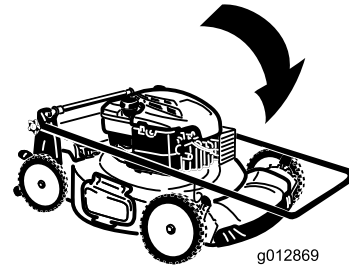

Figure 27
2. Fold the upper handle forward as shown in Figure 27.